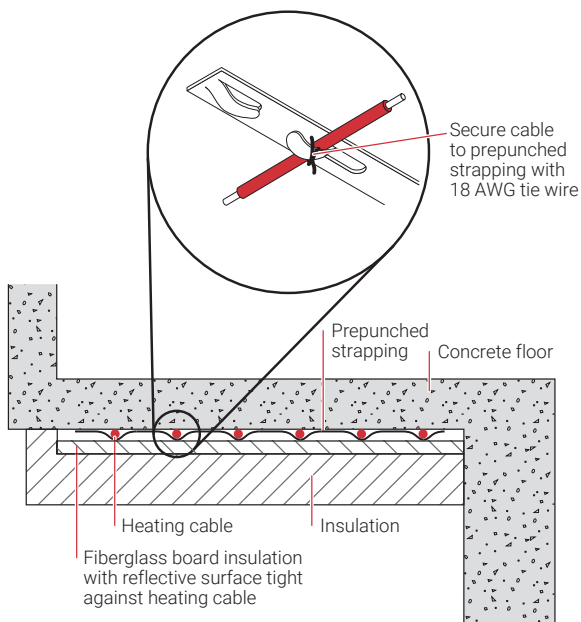
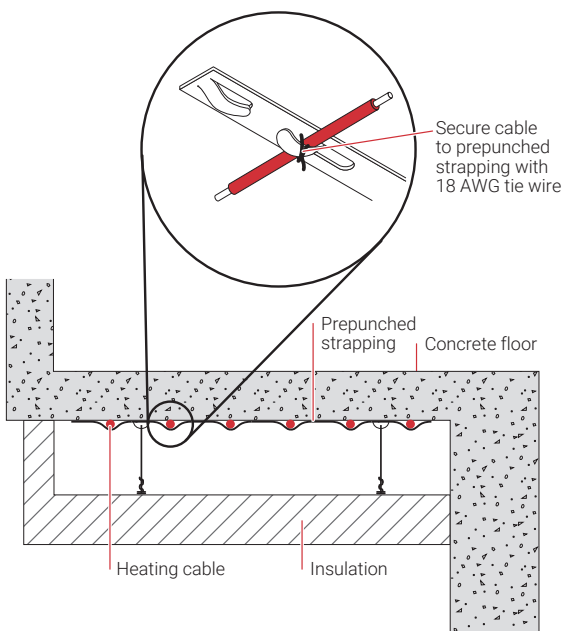
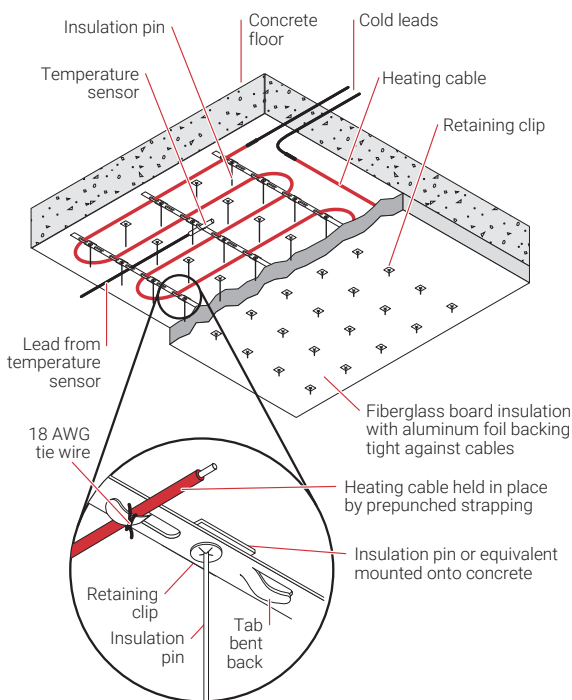

Figure 17: Heating cable held in place by rigid floor insulation
Figure 18: Heating cable when equipment space is below the floor
Figure 19: Rigid insulation held in place using insulation pins
1. a) Using foil backed fiberglass board rigid insulation to hold the cable in contact with the floor. The heating cable is fastened in place with prepunched strapping and tie wire as shown in Figure 17. If necessary, the fiberglass board insulation may be held in place with insulation pins as shown in Figure 19.
b) When there is equipment space below the floor, the heating cable is secured to the bottom of the floor and the insulation is supported by a drop ceiling below the equipment (Figure 18).
3. Attach prepunched strapping to the bottom of the concrete floor on approximately 30 in (76 cm) centers, perpendicular to the intended runs of heating cable. If using insulation pins or equivalent to secure the insulation (Figure 19), install the insulation pins over the entire area to be heated in accordance with the manufacturer's recommendations, prior to installing the prepunched strapping (pins must be in straight rows to allow installation of the prepunched strapping).
4. Lay out the heating cable in a serpentine pattern at the predetermined spacing as specified in the design requirements (see Section 2.10). Use the clips on the prepunched strapping to hold the cables in place and secure the cable to the strapping using #18 AWG tie wire or equivalent (Figure 17 and Figure 18). This will prevent the cable from coming loose from the pre-punched strapping as it expands and contracts during the heating and cooling cycles.
Insufficient insulation will increase heat loss from the floor and may lead to lower floor temperatures. The insulation type and thickness should be shown in the design specifications. If the insulation is being used to hold the heating cable to the floor (Figure 17 and Figure 19), use rigid fiberglass board insulation with a foil backing on one side and ensure that the insulation is supported so that all points along the heating cable circuit are firmly in contact with the bottom of the floor. Contact Chemelex if other types of insulating materials have been specified.